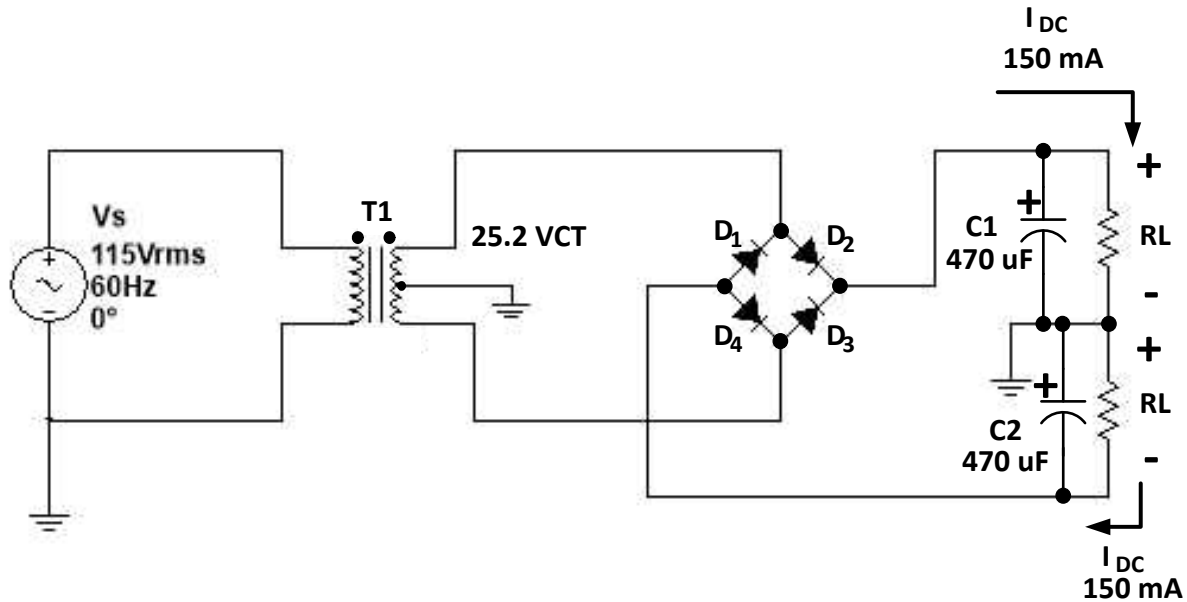

Figure 4-81.
- 4-61 Analyze the dual-complementary DC power supply shown in Fig. 4-81. (Hint: Analyze the top portion of the circuit as a full-wave rectifier using a center-tapped transformer. The voltages associated with the bottom portion have the same magnitudes but are negative with respect to ground.) The transformer secondary voltage is 25.2 VCT. The capacitor (C_1) is a 470-μF unit. The DC load current (I_{DC}) is 150 mA. Find V_m , V_{dcm} , $V_{r(p-p)}$, $V_{dc(min)}$, V_{DC} , $V_{r(rms)}$, the $\%r$, and determine the required WVDC rating for the capacitor. Check that we have a lightly loaded filter. What is the voltage across the bottom load resistor with respect to ground?
- 4-62 Analyze the dual-complementary DC power supply shown in Fig. 4-81. (Hint: Analyze the top portion of the circuit as a full-wave rectifier using a center-tapped transformer. The voltages associated with the bottom portion have the same magnitudes but are negative with respect to ground.) **The transformer secondary voltage is now 12.6 VCT.** The capacitor (C_1) is a 470- μF unit. The DC load current (I_{DC}) is 150 mA. Find V_m , V_{dcm} , $V_{r(p-p)}$, $V_{dc(min)}$, V_{DC} , $V_{r(rms)}$, the % r , and determine the required WVDC rating for the capacitor. Check that we have a lightly loaded filter. What is the voltage across the bottom load resistor with respect to ground?